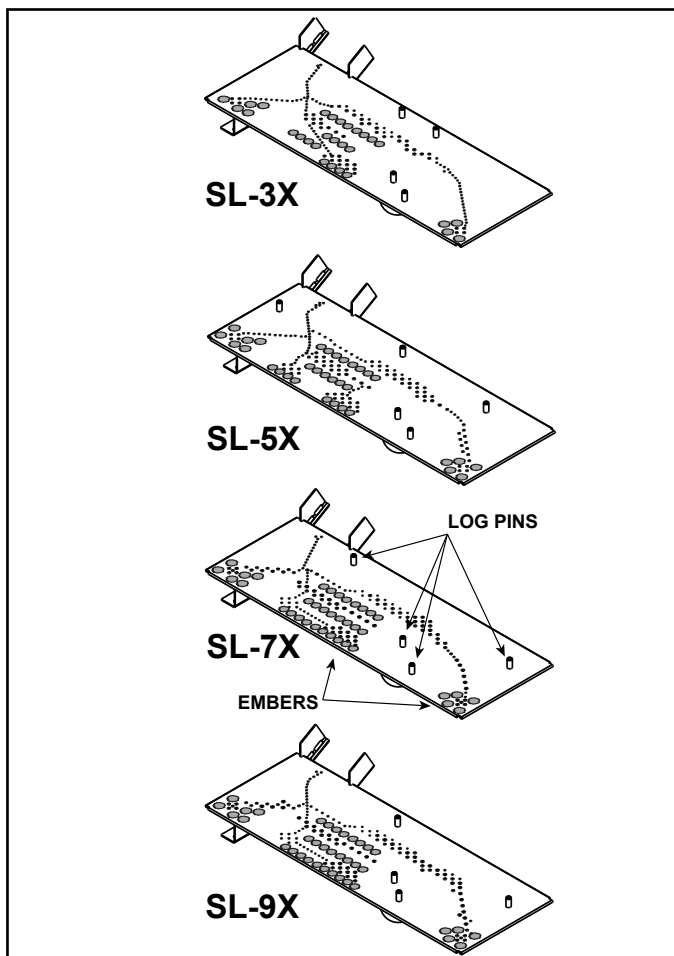
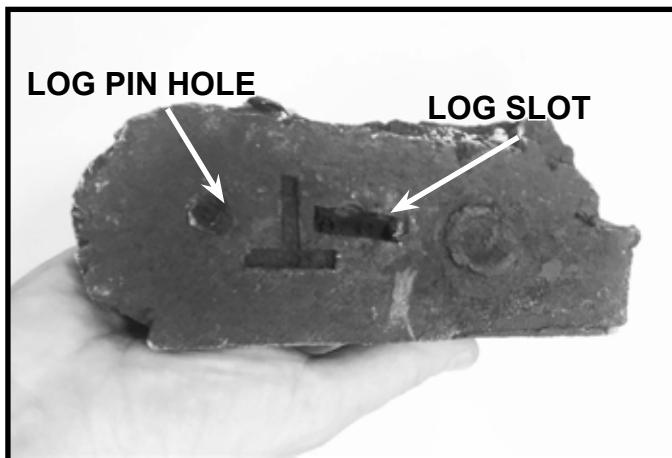

Figure 1 Log Pin and Glowing Ember Locations
Figure 2 Example of Log Pin Hole
The overall size and placement of the burner assembly within the firebox is very similar between all sizes. However, each burner top has different burner ports and log pin configurations. See Figure 1 for log pin locations.
- The rear left log, rear right log and small burner log utilize log pins on the burner for positive placement. Reference Figure 1 and Figure 2.
3. Remove the Glowing Embers from packaging and install the ember material as shown in Figure 1. Care should be taken to avoid placing ember material directly over ports and to avoid using excessive amounts of ember material.